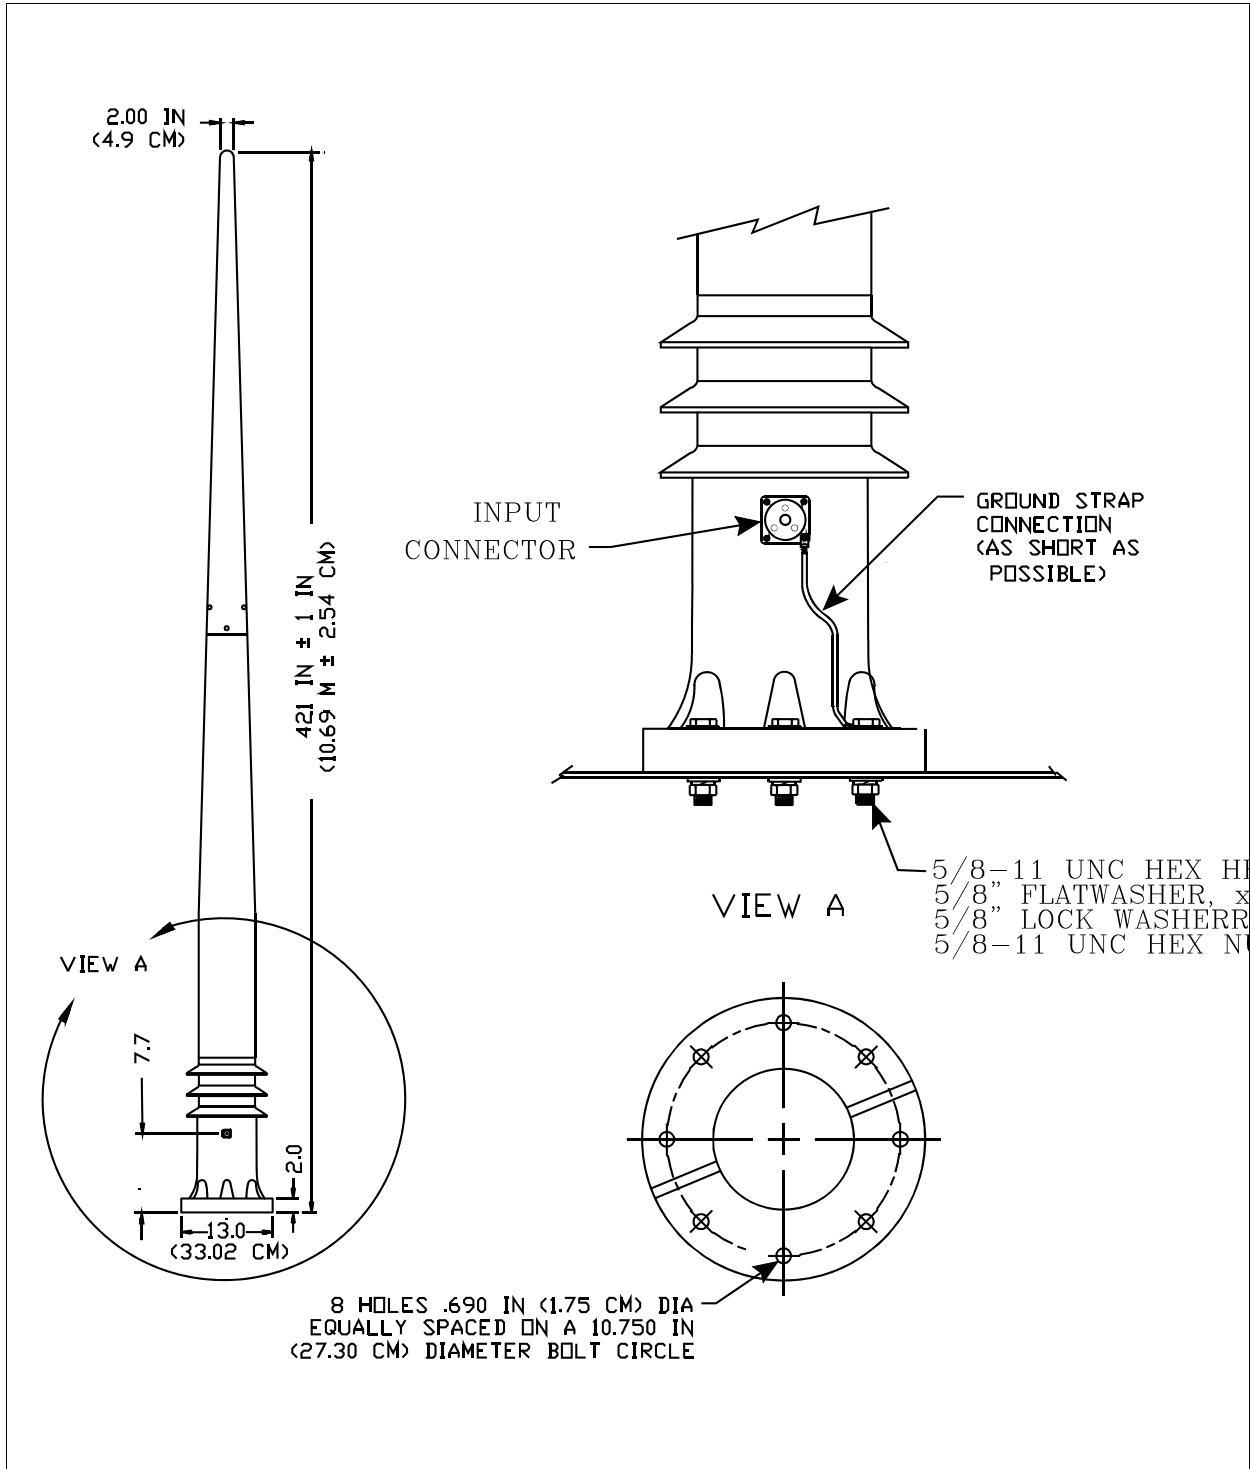

Figure 4-1 Installation Data
- 4-4 **FOUNDATION.** The antenna should be installed vertically on a mounting plate that has bolt holes matching those in the antenna base (see figure 4-1).
g. Make sure the ground strap supplied with the antenna is connected to one of the mounting bolts directly below the input connector on the antenna as shown in Figure 4-1.